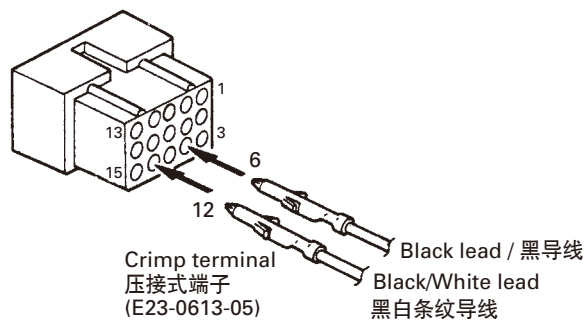

Fig. 2-3 / 图 2-3
3. Reinsert the terminal with the black and white stripe lead into hole number 12, and the terminal with the black lead into hole number 6. (Fig. 2-3)
3. 将带黑白条纹导线的端子插入第 12 孔, 将带黑导线的端子插入第 6 孔。(图 2-3)